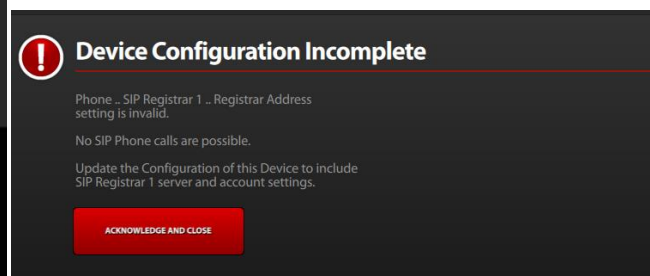

Figure 7. Activation Complete
- The HUBBCOM device will reboot to activate. The device takes 40–50 seconds to reboot before the device configuration notification screen is displayed (see Figure 7). The screen may flicker several times during boot-up.